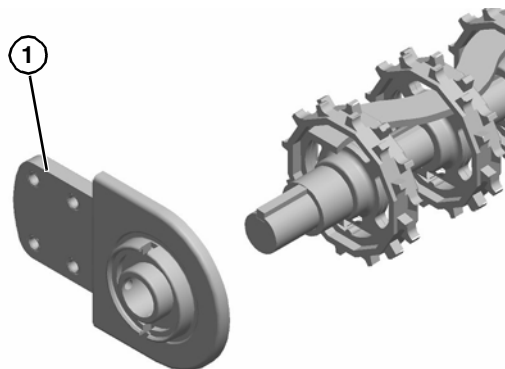

Figure 58
7. Slide the head plate with bearing (**Figure 58, item 1**) off the shaft.